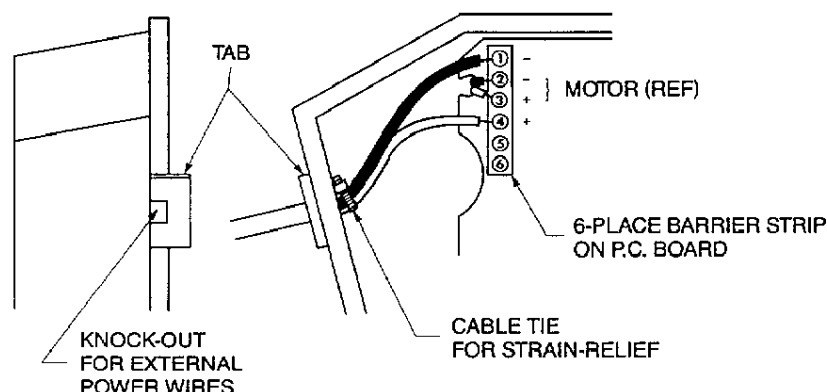

Figure 12. QMT External Power
- Step 3. Refer to Figure 12. Remove knockout.
- Step 5. Note the color and positions of the wires at the terminal block (Figure 12).